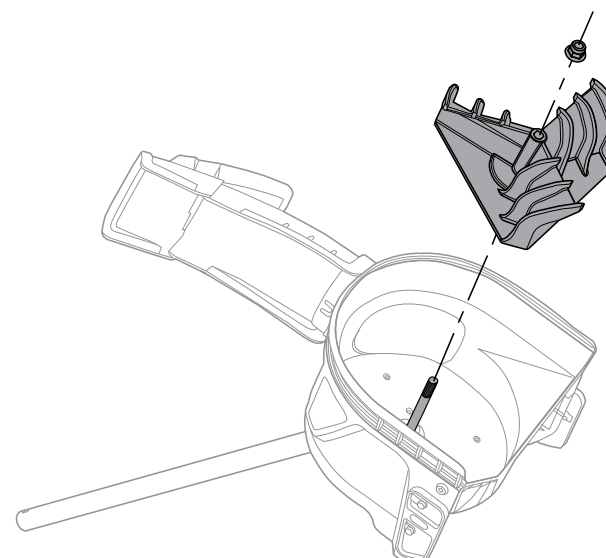

Fig. 1
3. Remove the impeller and replace with a new one. (Fig. 1)